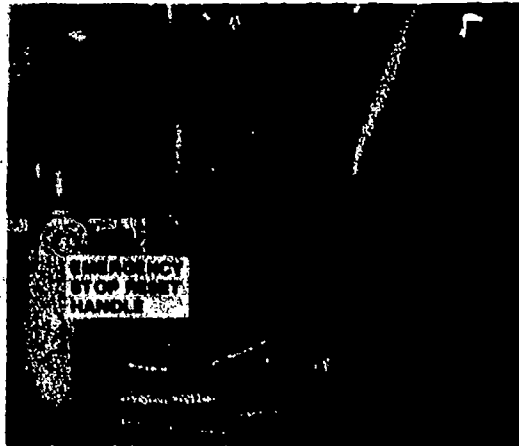

Fig 5-12. Emergency stop reset handle.
- (1) **Starting the engine.** The operator must perform the daily before-operation checks and services (Table 5-1).
- (c) You must always check to see that the stop handle and emergency stop handle (fig 5-12) are in. If the emergency stop has been used it must be manually reset.